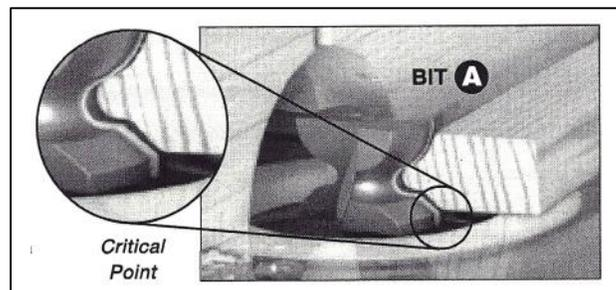
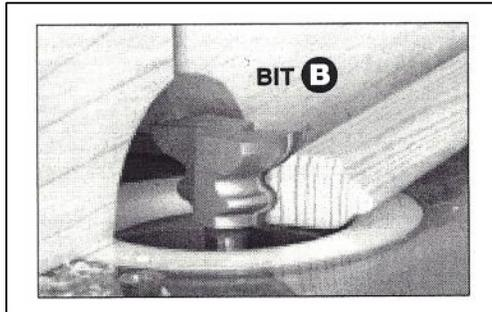
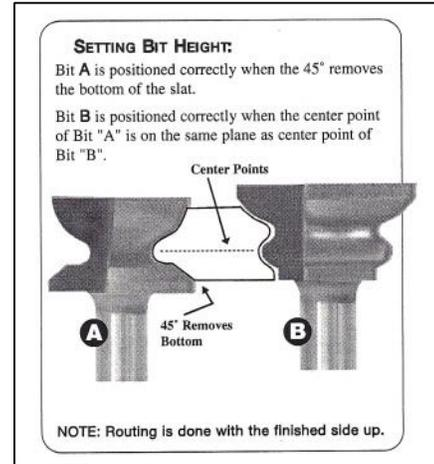

figure 1
figure 2
figure 3
4. Set the height of bit "A" as shown in figure 3 and rout the top edge of each slat and also rout the top edge of the starter strip as shown in figure 1. Rout with the finished side up.
- Set the height of bit “B” as shown in figure 3 rout the opposite side of each slat as shown in figure 2. **Do not rout** the bottom edge of the lead strip. Again, rout with the finished side up.